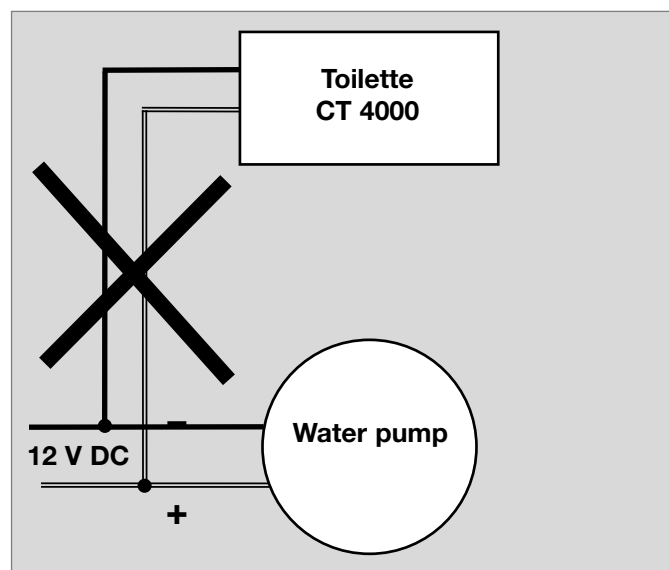

Fig. 31
- The toilet must not be directly connected in parallel to other consumers, otherwise malfunctions or damage to the toilet controller can occur (Fig. 31).